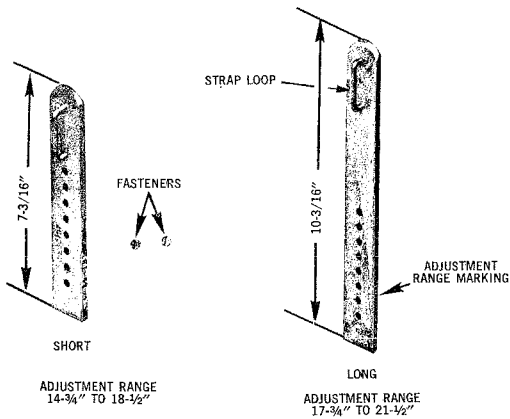

Fig. 3 — Sleeves for Adjustable Climbers
2.03 Sleeves used with adjustable climbers can be adjusted in increments of $\frac{1}{4}$ inch. They are available in two lengths. Fig. 3 illustrates these sleeves and the range of adjustments. Sleeves are attached to climbers by two set screws known as Fasteners except on the shorter sleeves from $14\frac{3}{4}$ to $15\frac{1}{2}$ inches and on the longer sleeves from $17\frac{3}{4}$ to $18\frac{1}{2}$ inches. On these adjustments, only one set screw is used for attachment. For these lengths, the wedging of the sleeve and leg iron provides a sufficiently tight fit of these parts.